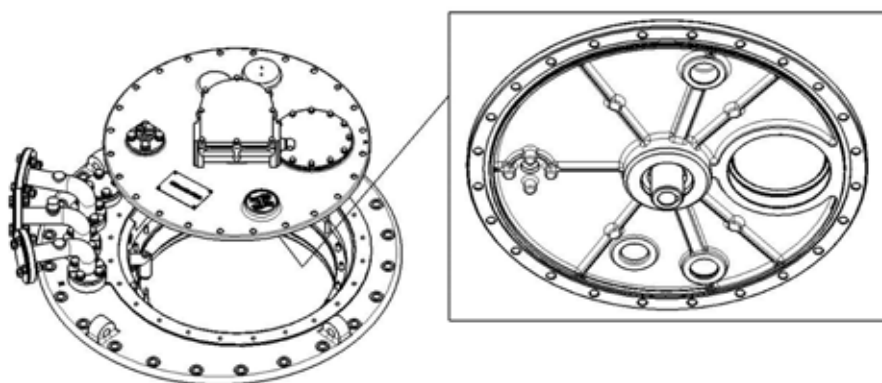

Figure 19 Tap-changer head cover
- 1) Clean the bottom sealing face of the tap-changer head flange as well as the surface of transformer mounting flange, and place a sealing gasket on it (Figure 19).